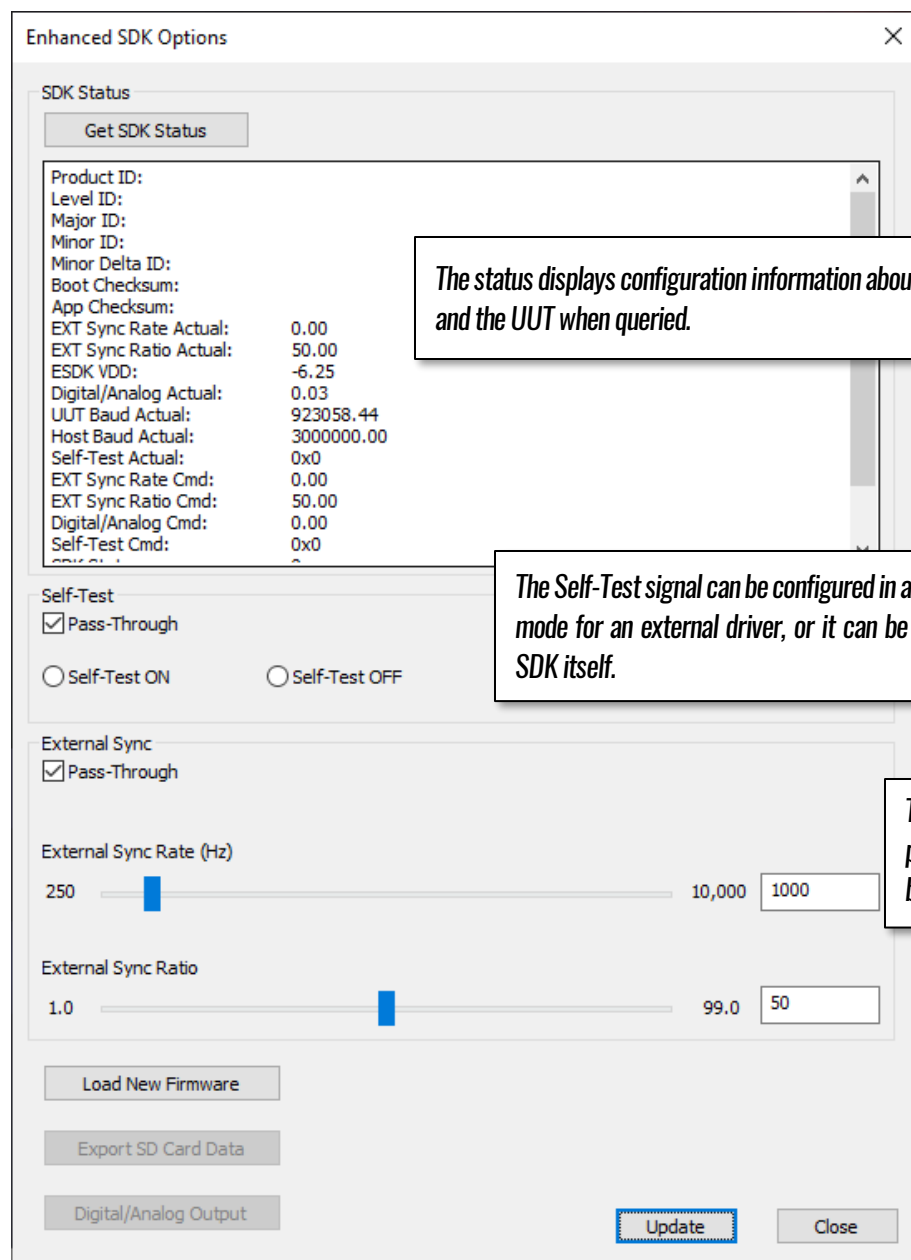

Figure 4. SX2 SDK options menu in Glamr.
*Glamr will begin searching for messages from the SX2 SDK. Once connected, messages will begin streaming to the display. The SX2 SDK options can now be accessed by going to the “SDK Options” menu and selecting “SX2 SDK Options” (Figure 4).*